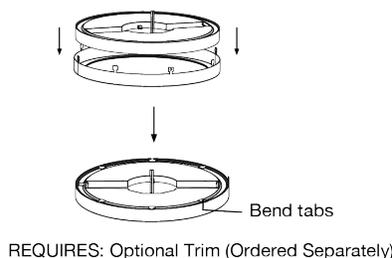

Fig. 2
2. (Optional) Connect the trim to the fixture by bending all tabs inwards. (Fig. 2)